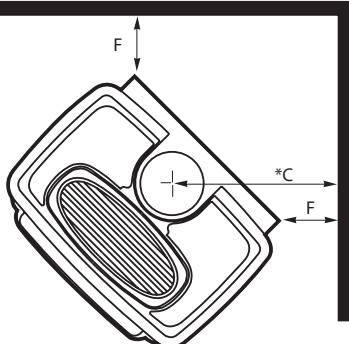

Figure 2
- As determined through the safety certification of this unit, a minimum clearance to combustible materials must be maintained around specific areas of the gas appliance. (See Table 5 & Figure 2)